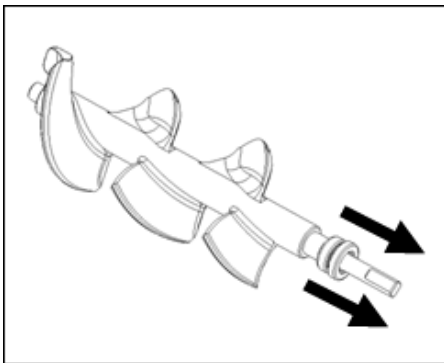
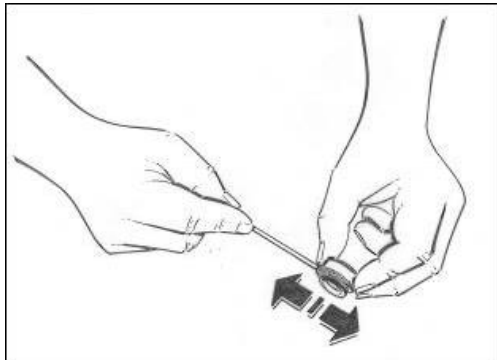

Fig. 52
Fig. 53
- Remove the rear seal (Fig. 52) and clean it carefully with the provided brush in order to remove any food residues that may be present (Fig. 53).